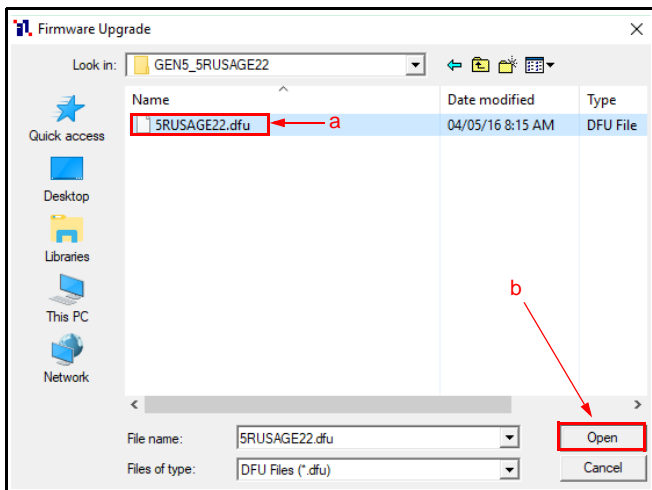

Figure 7 Select the Firmware File to Download
- From the Firmware Upgrade window (Figure 7), click on the desired Firmware update file (Figure 7 a) to be downloaded to the Printer. Then click the Open button (Figure 7 b) to continue.